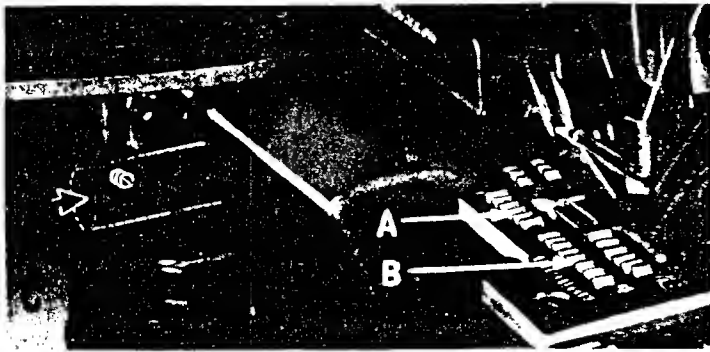

Fig. 12
Assemble the main and differential feed dogs (A, B, Fig. 12). Main and differential feed dogs should be leveled with respect to the throat plate by rotating feed tilting adjusting pin (C). This pin raises or lowers the back end of feed bar.
The feed dogs should be set level at the time the teeth first appear above the throat plate. Screw (D, Fig. 12) locks feed